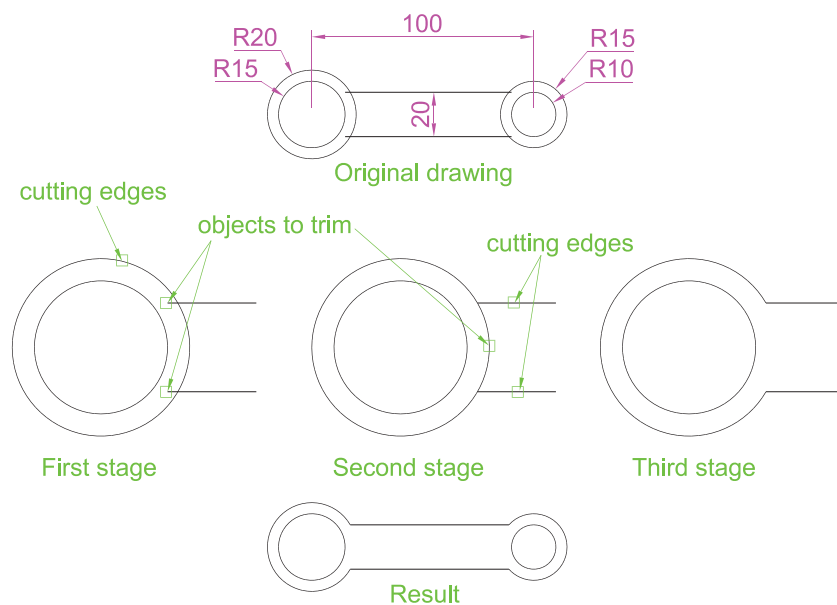

Fig. 5.31 First example – **Trim**
First example – Trim (Fig. 5.31)
1. Construct the drawing **Original drawing** shown in Fig. 5.31.
3. This completes the **First stage** as shown in Fig. 5.31. Repeat the **Trim** sequence for the **Second stage**.
4. The **Third stage** drawing of Fig. 5.31 shows the result of the trims at the left-hand end of the drawing.
5. Repeat for the right-hand end. The final result is shown in the drawing labelled **Result** in Fig. 5.31.